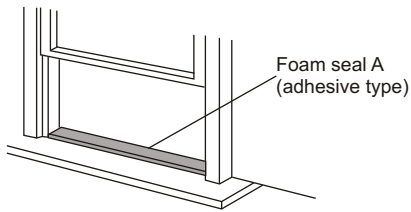

Fig.10
1. Cut the foam seal(adhesive type) to the proper length and attach it to the window sill. Fig.10